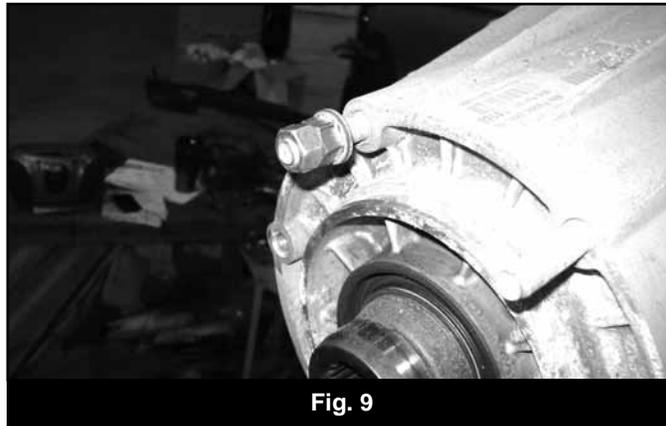

Fig. 9
17. Remove the studs from the transfer case. Thread on up to 3 nuts in order for there to be enough resistance to unthread the studs. (Fig 9)